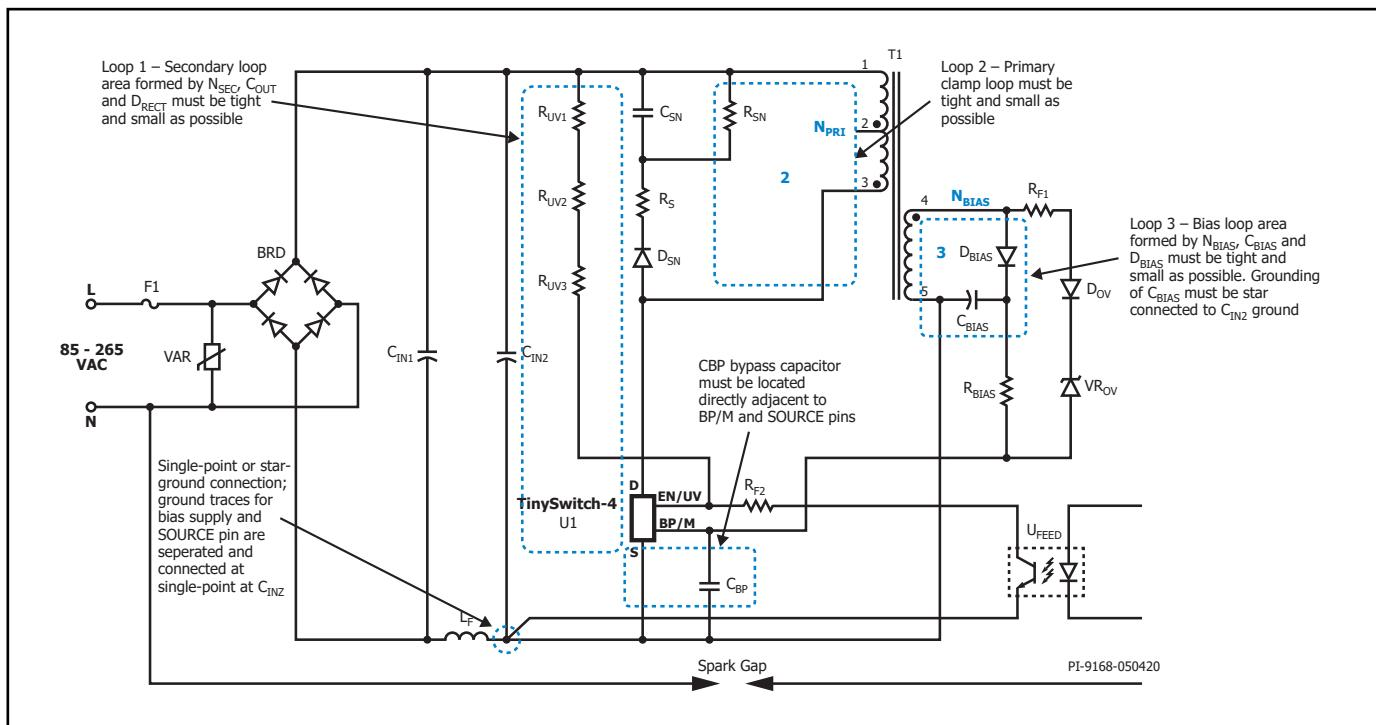
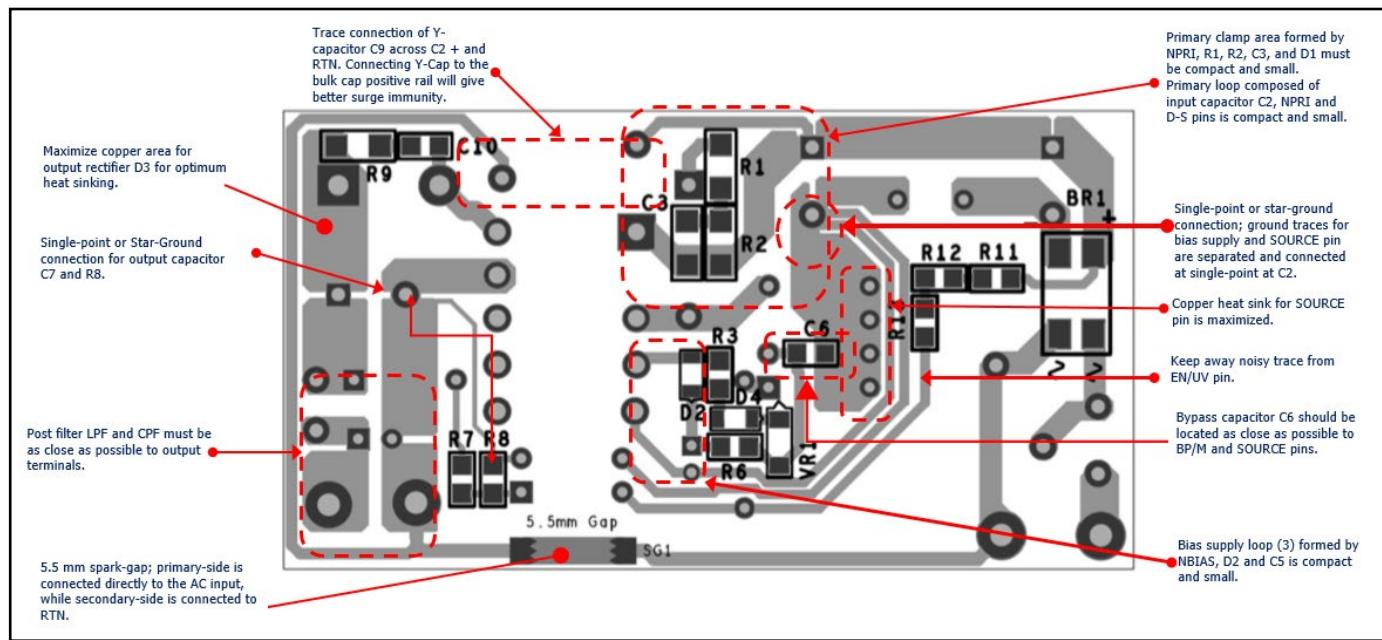

Figure 39. Primary-Side Typical Schematic of TinySwitch-4 Showing Critical Loops Area, Critical Component Traces and Single-Point or Star Grounding.
Figure 41. TinySwitch-4 Layout Guidelines: Bottom Side Layout of RDR-839.
See Figures 39 to 42 for a recommended circuit board layout for TinySwitch-4.
If a 0.1 μ F bypass capacitor has been selected it should be a high frequency ceramic type (e.g. with X7R dielectric). It must be placed directly between the ENABLE and SOURCE pins to filter external noise entering the BYPASS pin. If a 1 μ F or 10 μ F bypass capacitor was selected, then an additional 0.1 μ F capacitor should be added across BYPASS and SOURCE pins to provide noise filtering (see Figure 39).
The spark gap is best placed between output return and/or positive terminals and one of the AC inputs. A 6.4 mm is more than sufficient to meet the creepage and clearance. In the configuration shown on Figure 39 and layout example on Figure 41, a 5.5 mm spark gap is acceptable.
1. Appropriate component placement and small loop areas of the primary and secondary power circuits help minimize conducted and radiated EMI. Care should be taken to achieve a compact loop area. See Figure 39 to 42 for reference.
1. Use a spark gap connected between secondary output terminals and one of the AC input. Reference Design RDR-839 placed the spark gap between RTN and Neutral terminal. A 5.5 mm gap is often sufficient to meet creepage and clearance requirements of applicable safety standards. See Figure 38 for schematic reference and Figures 39 to 42 for layout and component placement reference.
4. Separate the ground trace of optocoupler U_{FEED} from the ground trace of bias capacitor C_{BIAS} . The two ground will be star-connected at the bulk capacitor C_{IN2} ground pin. This minimizes coupling of ESD. See Figure 41 and 42 for layout and component placement reference and Figure 38 for schematic reference.
The PCB layout and component placement of this application example is shown on Figure 41 and 42. The PCB of RDR-893 also has a provisions of changing TNY288 IC package for D and K as shown on Figure 27.